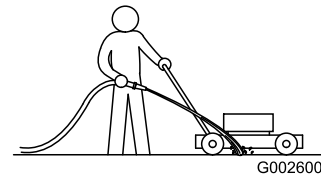

Figure 17
3. With the motor running and the blade engaged, spray a stream of water in front of the **right**, rear wheel (Figure 17).